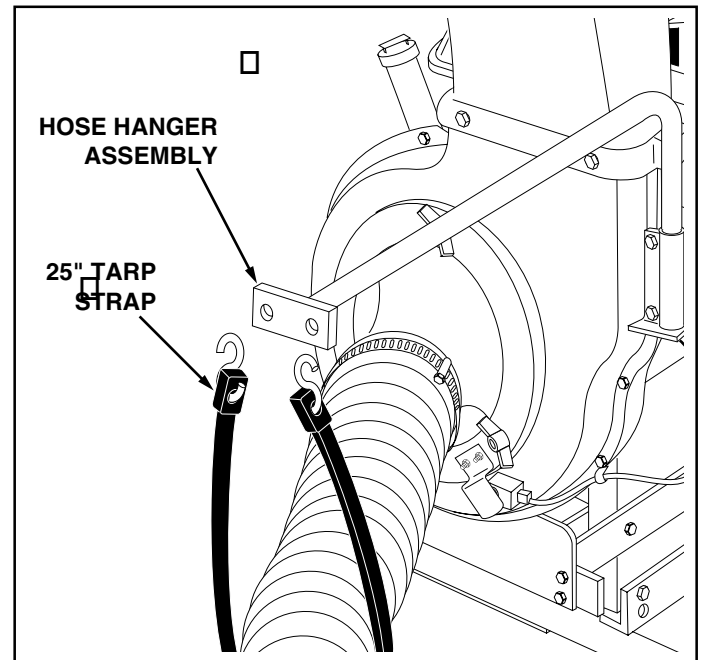

FIGURE 21
36. Place the hose hanger rod assembly into the hose hanger bracket on the impeller housing assembly. See figure 21.
37. Loop the 25" tarp strap under the hose. Fasten the hooks to the hose hanger rod assembly. See figure 21.